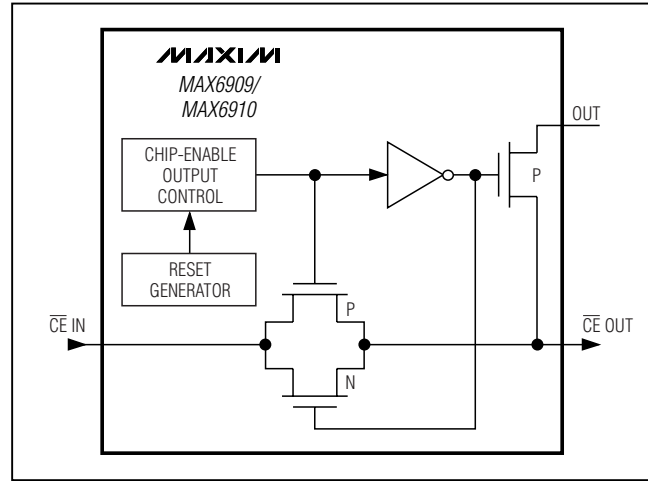

Figure 11. Chip-Enable Transmission Gate
Internal gating of chip-enable (CE) signals prevents erroneous data from corrupting CMOS RAM in the event of an undervoltage condition. The MAX6909/MAX6910 use a transmission gate from  $\overline{\text{CE IN}}$  to  $\overline{\text{CE OUT}}$ . During normal operation (reset not asserted), the transmission gate is enabled and passes all CE transitions. When reset is asserted, this path becomes disabled, preventing erroneous data from corrupting the CMOS RAM. The short CE propagation delay from  $\overline{\text{CE IN}}$  to  $\overline{\text{CE OUT}}$  enables the MAX6909/MAX6910 to be used with most microprocessors. If  $\overline{\text{CE IN}}$  is low when reset asserts,  $\overline{\text{CE OUT}}$  remains low for typically  $t_{\text{RCE}}$  to permit completion of the current write cycle. Figure 11 shows the chip-enable transmission gate.